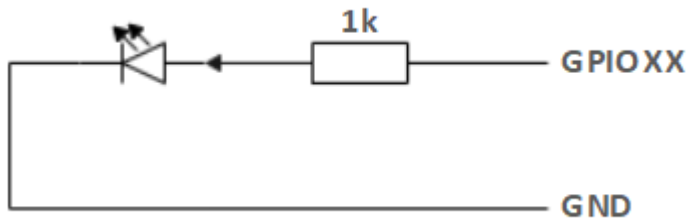

Figure 2
5. If a GPIO is set to output mode, it outputs a high-level signal, and the circuit connection is shown in Figure 2, and the LED light will light up.